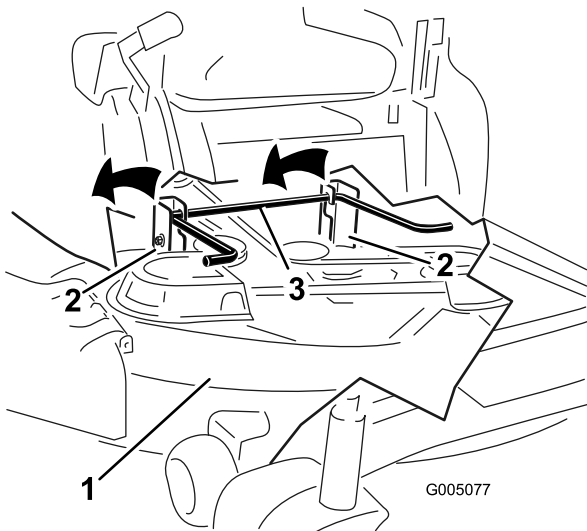

Figure 53
5. Lift the mower deck and hanger brackets clear of the rear lift rod and lower the mower carefully to the ground (Figure 53).
- Lift the rear of the mower deck and guide the hanger brackets over the rear lift rod (Figure 53).